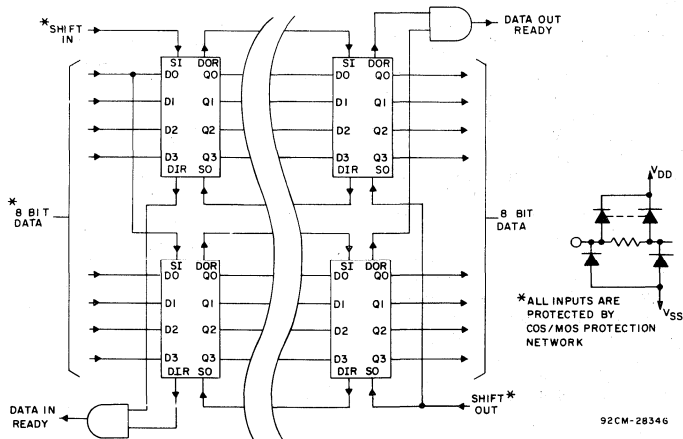

Fig. 3 — Expansion, 8-bits-wide-by-16 N-bits long.
**Cascading** — The CD40105B can be cascaded to form longer registers simply by connecting the DIR to SO and DOR to SI. For words wider than 4 bits, the DIR and the DOR outputs must be gated together with AND gates. Their outputs drive the SI and SO inputs in parallel, if expanding is done in both directions (See Figs. 3 and 4).
**Master Reset** — A high on the MASTER RESET (MR) sets all the control logic marker bits to "0". DOR goes low and DIR goes high. The contents of the data register are not changed, only declared invalid, and will be superseded when the first nibble of data is loaded.